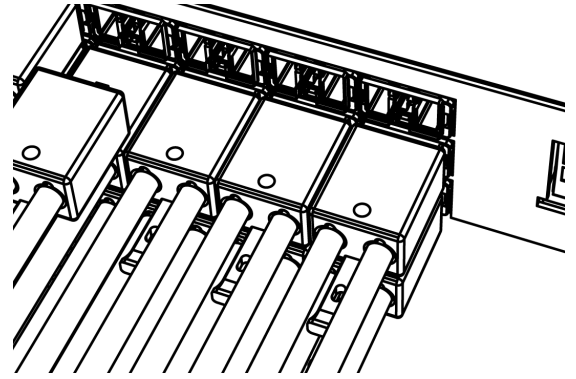

Figure 18. Connectorized output cables
Step 1. Insert the DC connectors into the outputs until they click. The connectors are keyed to ensure correct polarity (see Figure 18).